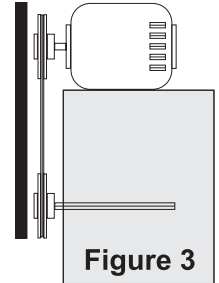

Figure 3
2. Adjust the motor plate until proper tension is reached. For proper tension, a deflection of approximately 1/4" per foot of center distance should be obtained by firmly pressing the belt. See Figure 3.
When the pulleys are not the same width, the allowable gap must be adjusted by half of the difference in width. Figure 3 illustrates using a carpenter's square to adjust the position of the motor pulley until the belt is parallel to the longer leg of the square.